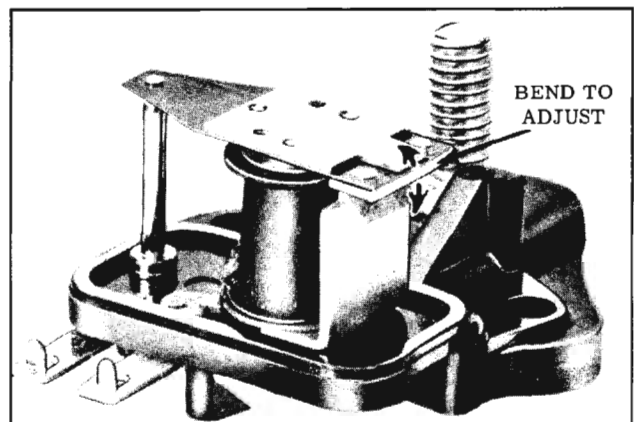

Fig. 14-150 Adjusting Relay
4. Slowly decrease the resistance until horn relay points close. Closing voltage should be 1.5 to 9.5 volts. If voltage is outside this range, adjust to 6.5 volts by bending armature spring post down to increase the voltage or up to decrease the voltage. (Fig. 14-150)